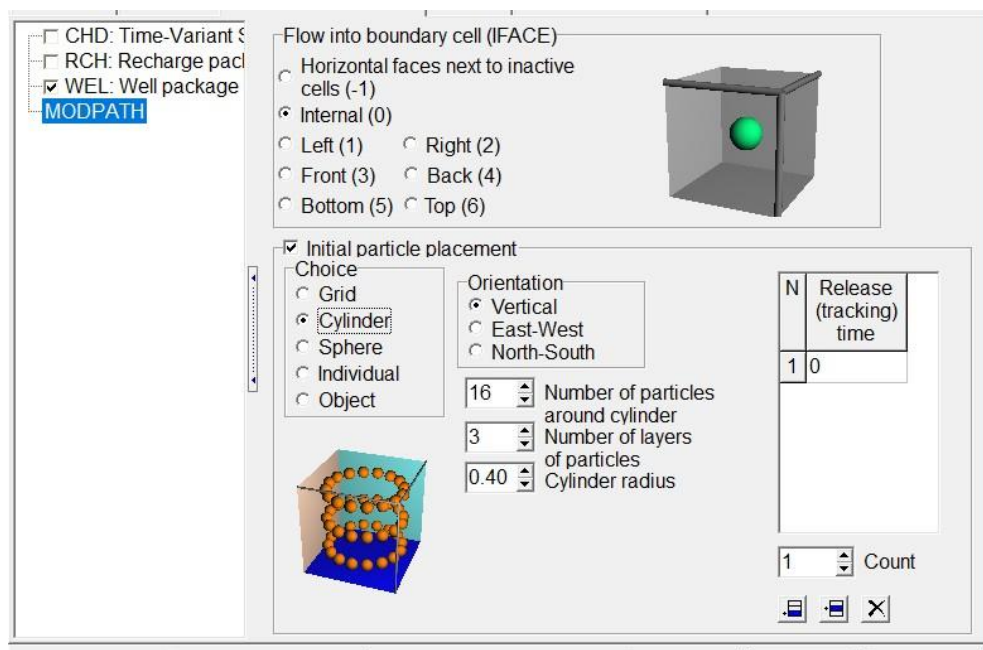

Figure 18. Setting particles for backtracking.
- 3) Now we have to set the particles. Open the object corresponding to the well. You can use the icon to show or hide object to find the list of objects you created. You can find the well under Modflow features → WEL package. Double click on the well you created and choose Model Features → MODPATH. Here you can set particles around the well. You can set them as shown on Figure 18 or test other geometries.